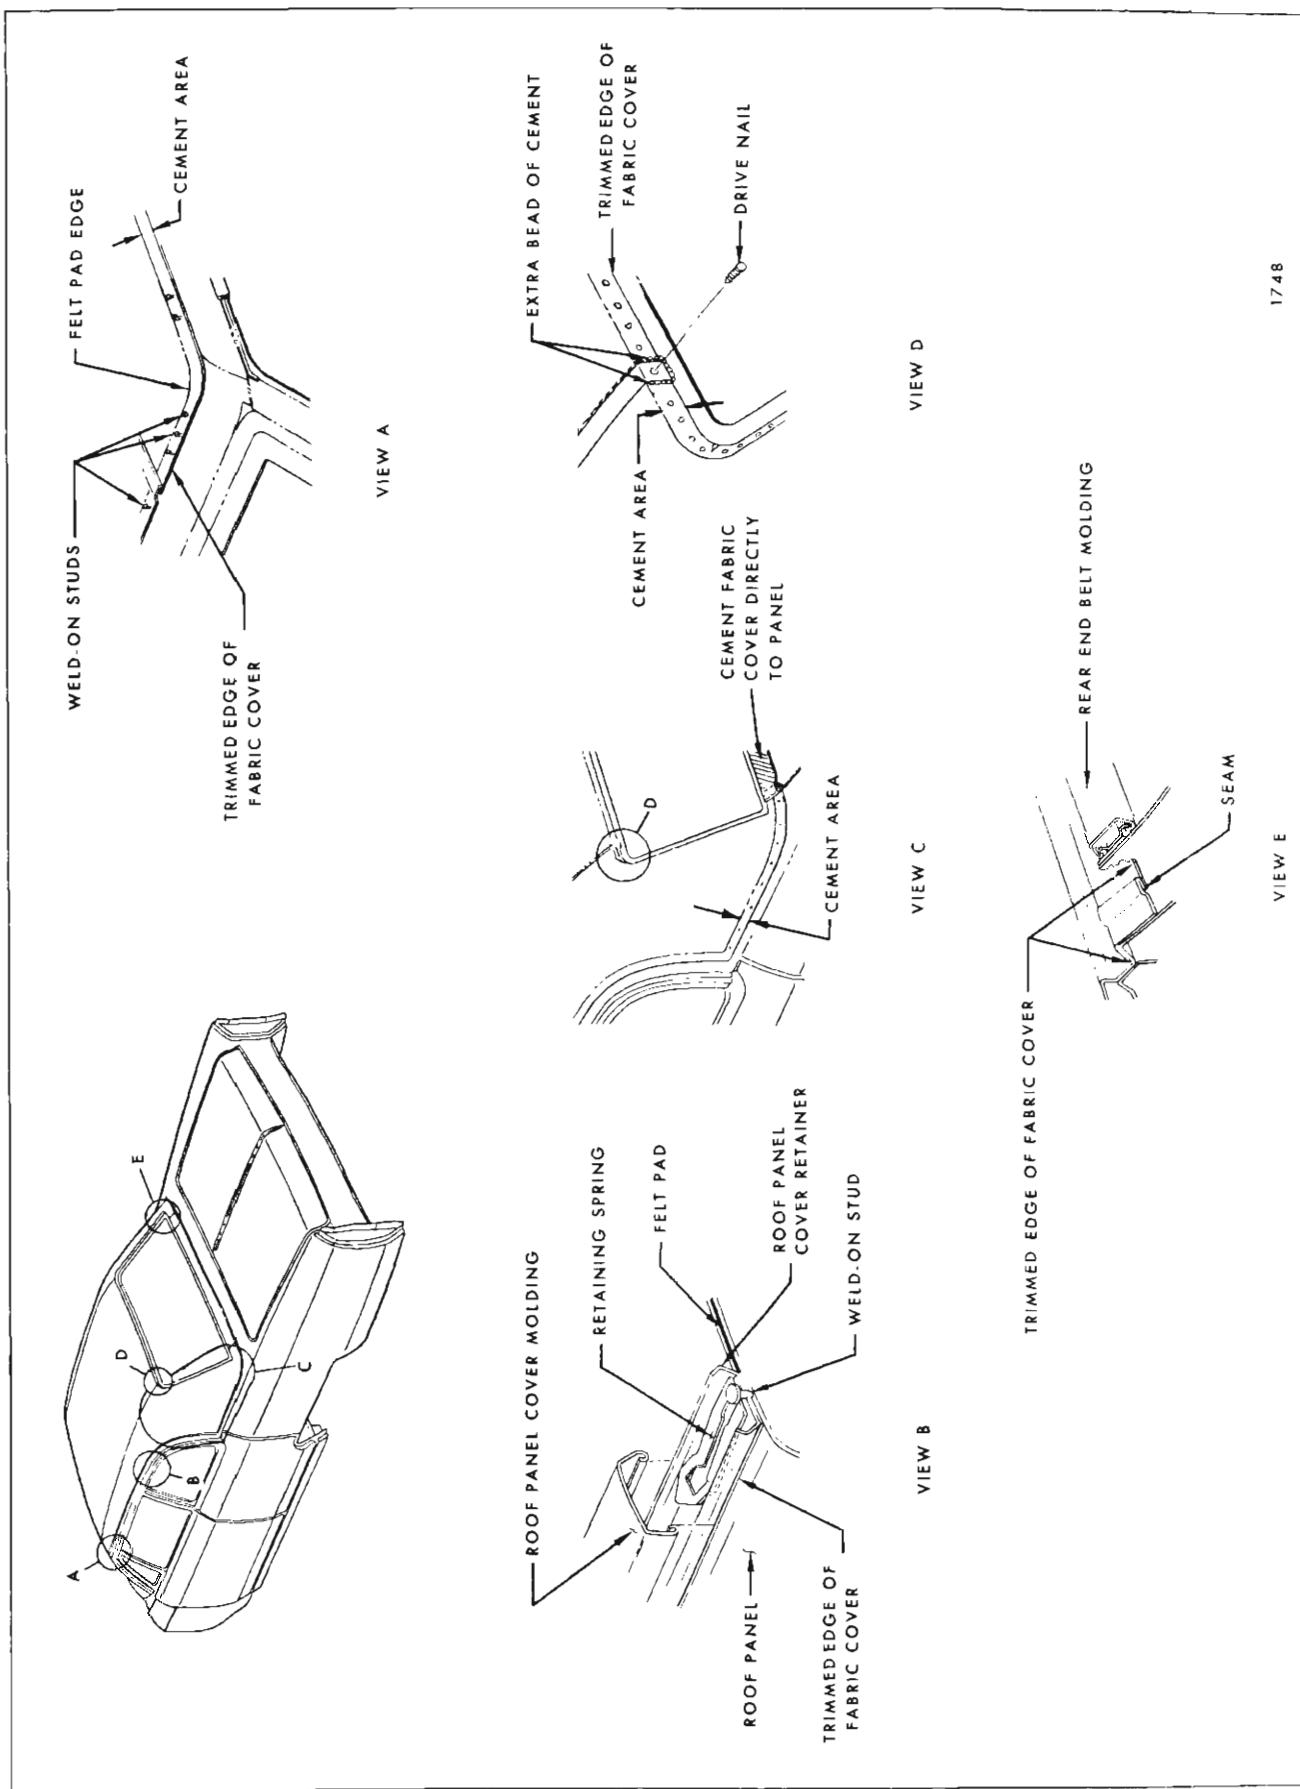

Fig. 1J5—Fabric Roof Cover Installation
NOTE: Where new cover is installed at temperatures below 72°, pliers fabricated as shown in Figure 1J2 will aid in removing wrinkles.
5. Apply nitrile vinyl trim adhesive to inner perimeter of fabric cover. (3M Vinyl Trim Adhesive, Permalastic Vinyl Trim Adhesive, or equivalent). Allow to dry for fifteen minutes. (See Fig. 1J3).
IMPORTANT: No cement should contact the felt pad or uncovered portion of paint surface. (See Fig. 1J5).